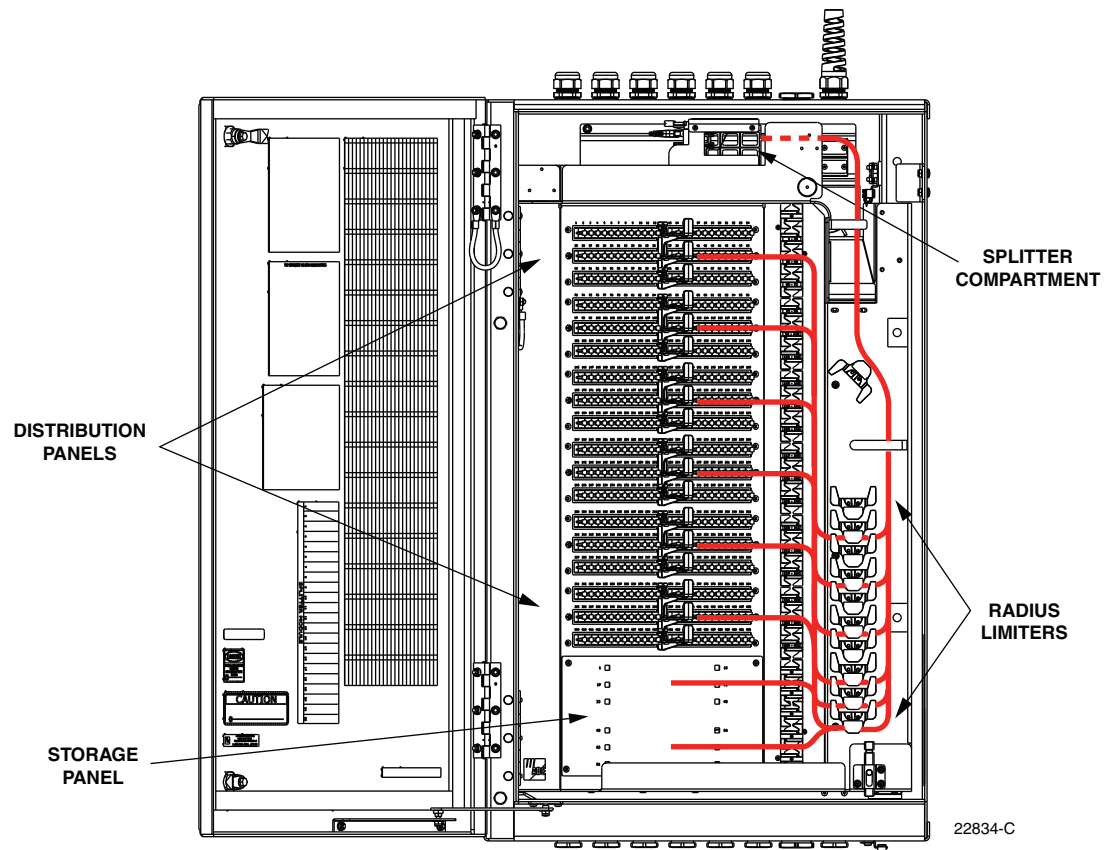

Figure 70. Routing Splitter Output Fibers
3. Use the radius limiters on the right side of the cabinet to store any excess fiber slack. Refer to Figure 70 for the routing guidelines.
6. Use the radius limiters on the right side of the cabinet to store any excess fiber slack. Refer to Figure 70 for the routing guidelines